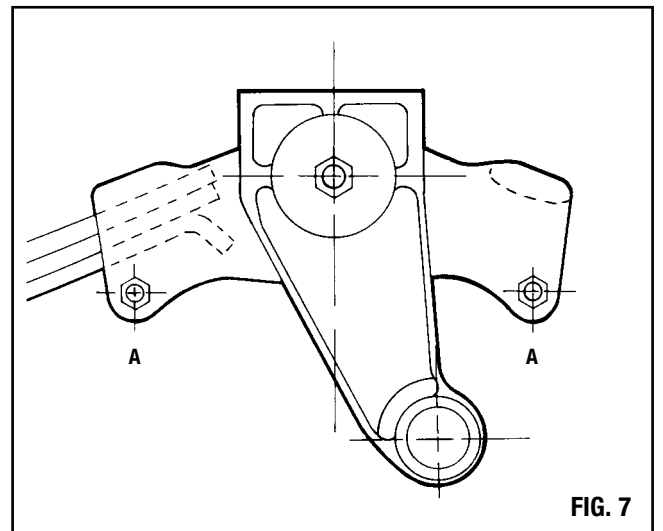

FIG. 7
Fit spring retaining bolts (A) and nuts in position in equaliser bracket (Fig. 7) and tighten. Lower axle. Repeat for rear axle.